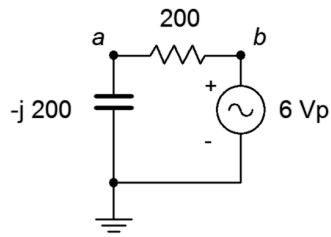

Figure 2.15
29. For the circuit of Figure 2.15, determine the circulating current and the voltages across each component.